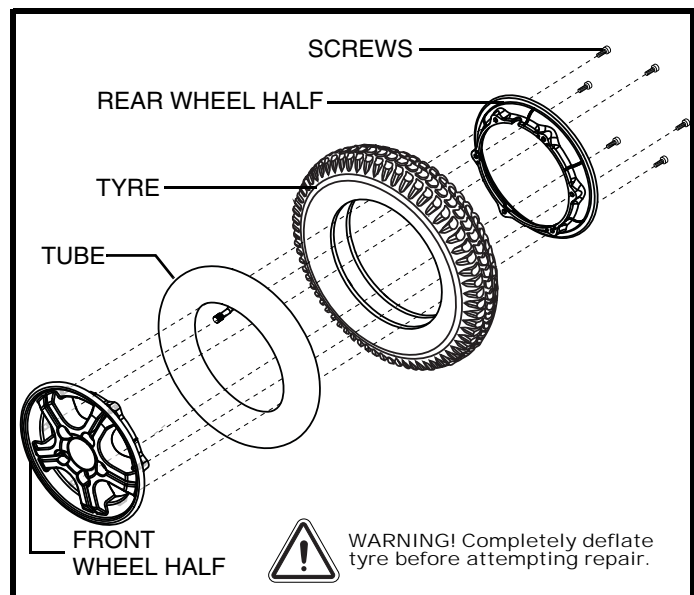

Figure 26. Drive Wheel Assembly
6. Remove the screws and separate the wheel halves. **See figure 26.**
7. Remove the old tube from the pneumatic tyre and replace it with a new tube or replace the entire assembly if it is a solid tyre. **See figure 26.**